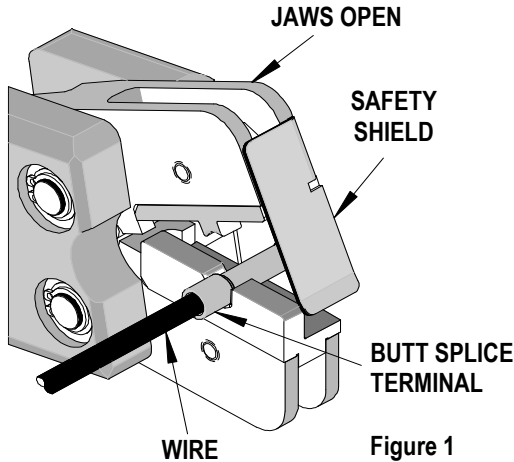

Figure 1
2. Hold airhead crimp tool with the backside facing the operator. Insert the butt splice and the wire into the nest. See Figure 1.